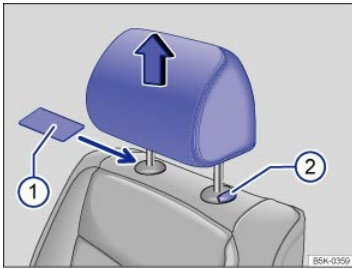

Fig. 41 Removing the front head restraints.
- Slide a flat object, such as a plastic credit card, underneath the right side of the cap on the right-hand seat guide rod ⇒ Fig. 41① to unlock the head restraint.
- To release the left-hand guide rod, press button ② in (towards guide rod) and hold.
- Pull the head restraint out completely while holding button ②.
- Push the head restraint down while pressing button ⇒ Fig. 41②.